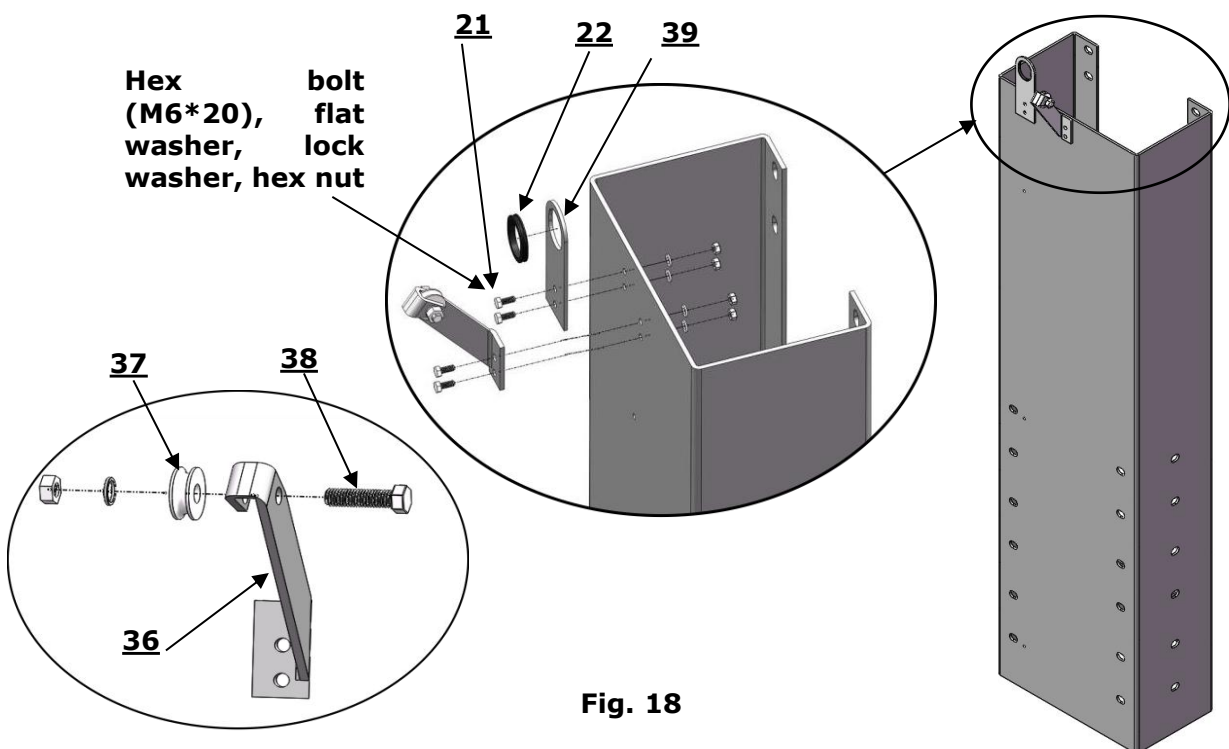

Fig. 18
D. Install parts of outer columns. (See Fig. 18)